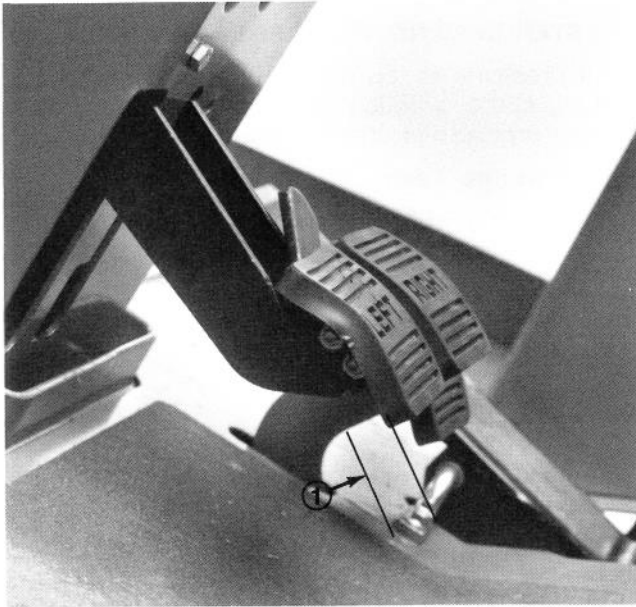

Figure 14
B. Put a mark on the socket so you can count the number of rotations. Loosen the adjusting nut three (3) complete turns.
31. Check steering/parking brake and adjust if there is more than one (1) in. of "free travel". Free travel is the distance the brake pedal moves before braking resistance is felt (Fig. 14). Adjust as follows: